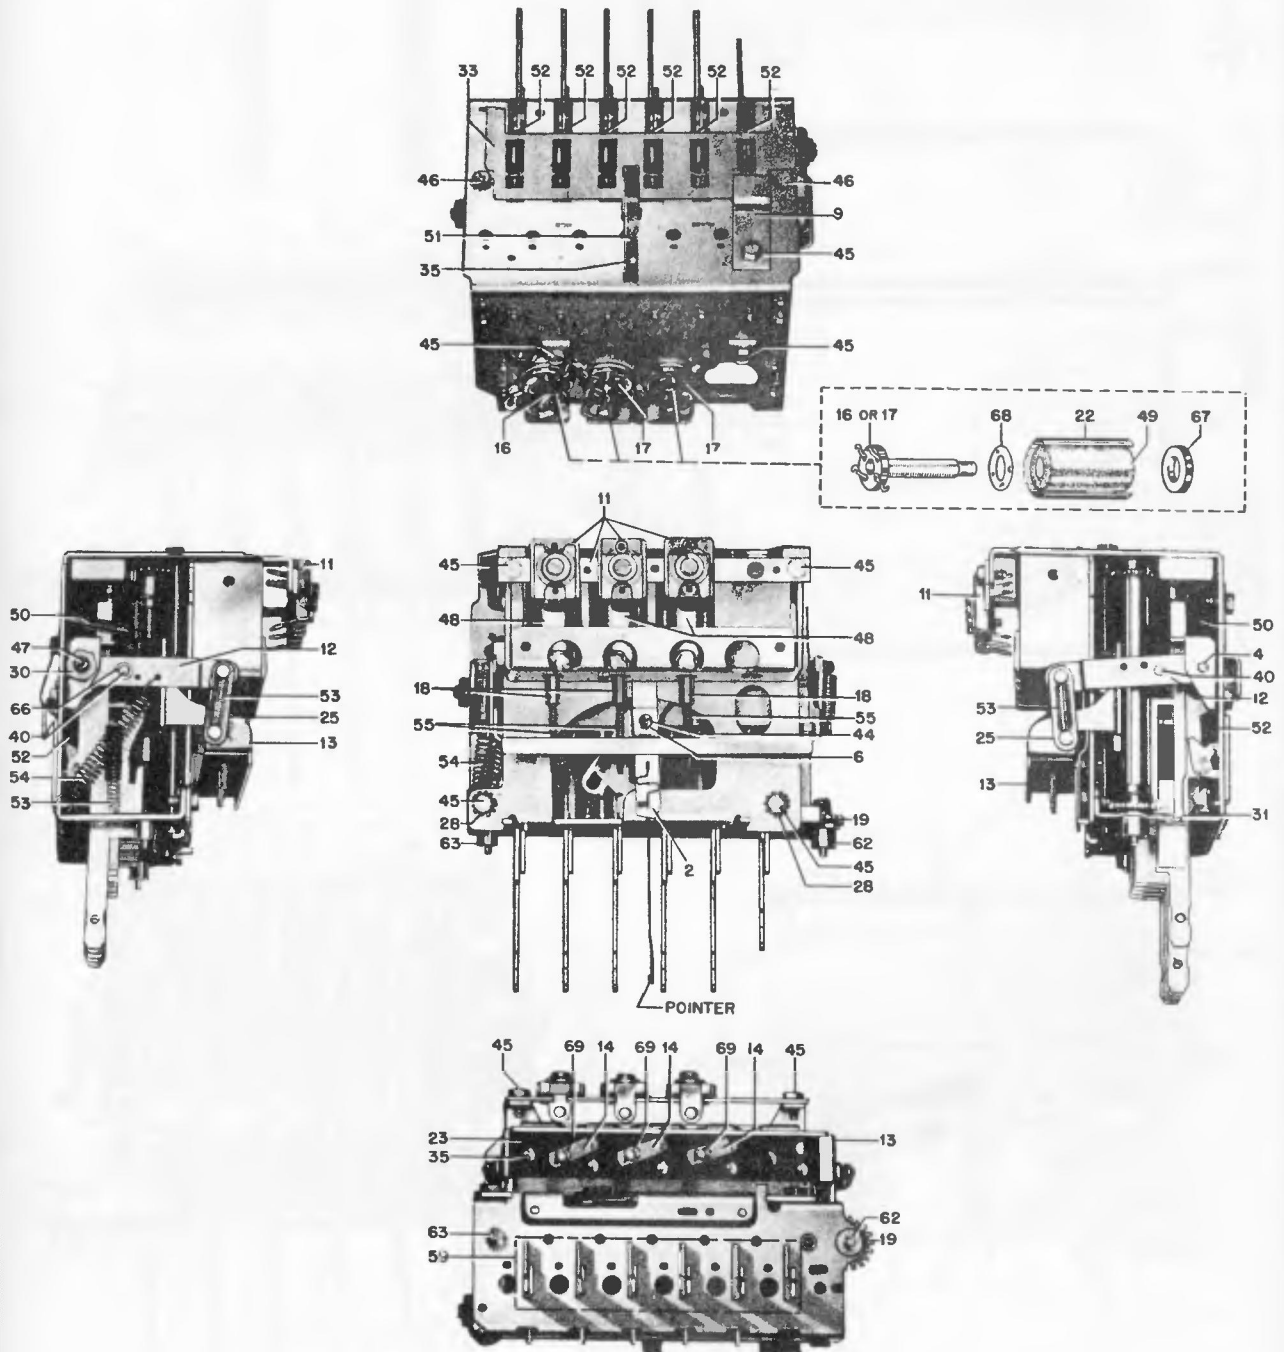

FIGURE 1. AUTOMATIC TUNER AT-58 PARTS LOCATIONS
top deck, unhook springs (53) and links (25). Grasp top deck and lift up and tip back. This leaves both decks open for servicing. See Figures 1 and 2.